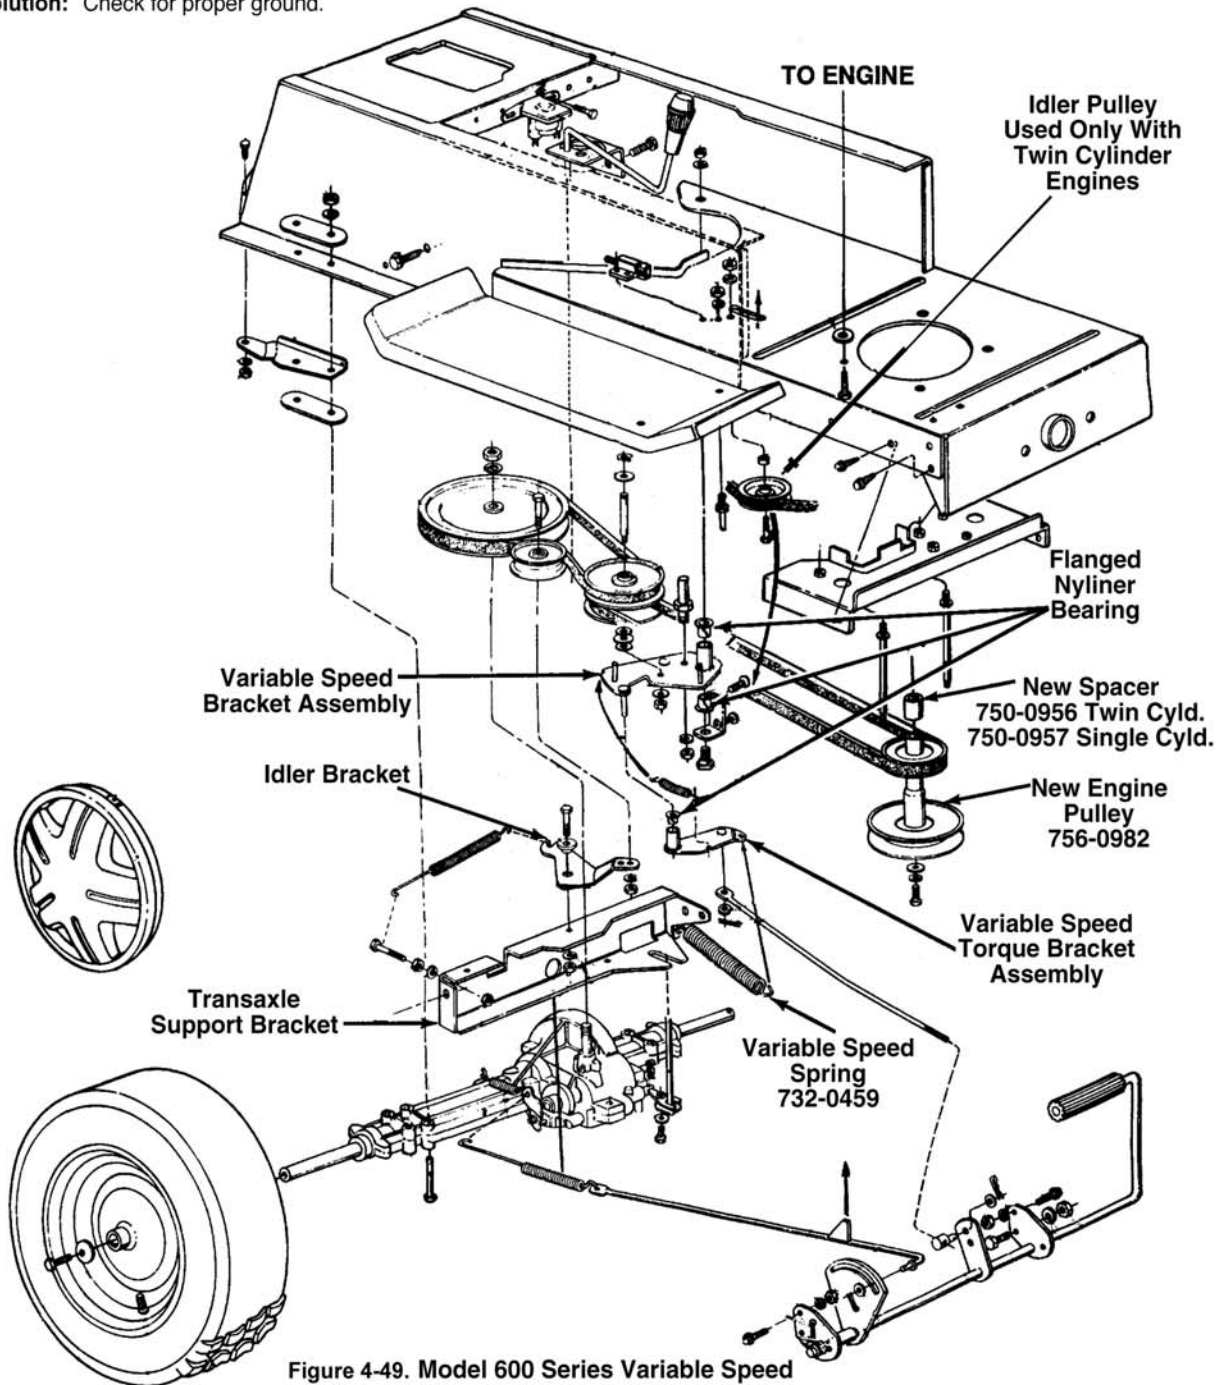

Figure 4-49. Model 600 Series Variable Speed
1. Yard tractor with the heavy duty single speed transmission. See Figure 4-49.